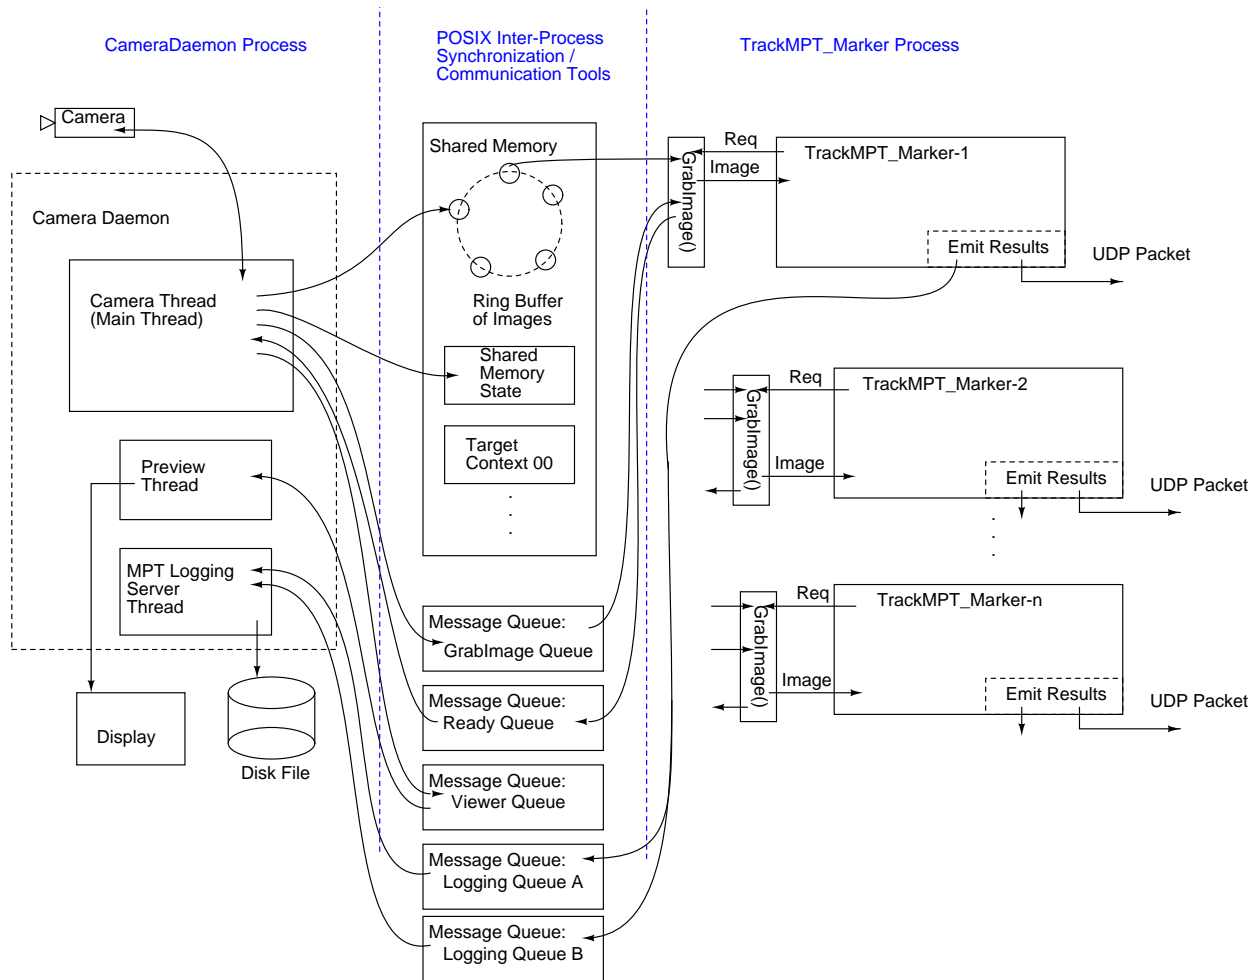

Figure 7: Block diagram showing overview of the real-time MPT system showing CameraDaemon and the MPT tasks.
In this section, the detailed operation of the real-time moiré phase tracking system is described. A block diagram giving an overview of the real-time system is seen in figure 7.
- The image is transferred to the next node on the Ring Buffer, which is seen in figure 7.
For example, in figure 7, if processes `TrackMPT_Marker-1` and `TrackMPT_Marker-2` are configured to process the same marker, the `TrackMPT_Marker / GrabImage()` mechanics will insure that each image is processed only once. Additionally, if a `TrackMPT_Marker` process is ready, it will be started as soon as an image becomes available in the `CameraDaemon` ring buffer, minimizing temporal jitter.
3.1.3.1 CameraDaemon saves the ring when tracking is lost CameraDaemon detects a period of active image transfers via `GrabImage()` followed by a halt in image transfers. Exploiting the ring buffer architecture of figure 7, when a halt in image transfers is detected, CameraDaemon saves $nRingNodes-1$ images to disk, in the `/Metria/Logging` directory, as described in section 4.6.